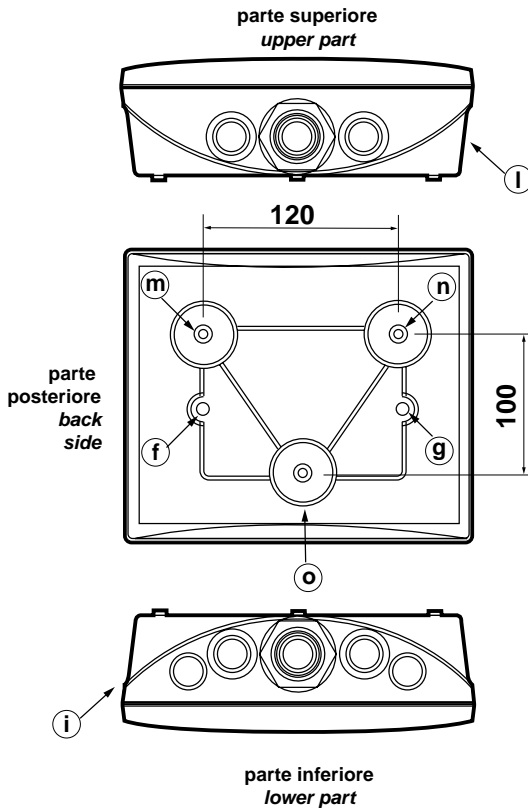

Fig. 1.3.1
5. Make two holes in the back part (Fig. 1.3.1 in the perforated part - parts **f**, **g**).
With reference to Fig. 1.3.1: